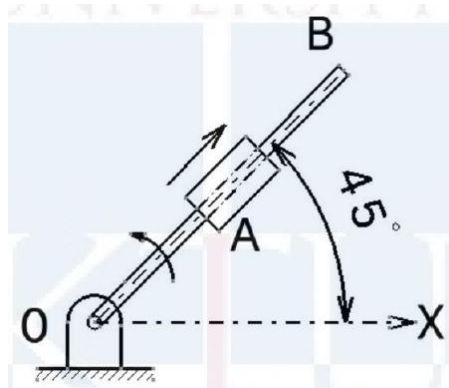

Figure 5
4. A link OB rotating with a constant angular velocity of  $2\text{ rad/s}$  in the counter clockwise direction and a block is sliding radially outwards on it with a uniform velocity of  $0.75\text{ m/s}$  with respect to the rod as shown in the figure 5 below. Given  $OA = 1\text{ m}$  and link OB is inclined to the positive X axis by  $45^\circ$ . Find out the absolute acceleration of block at A in magnitude and direction.